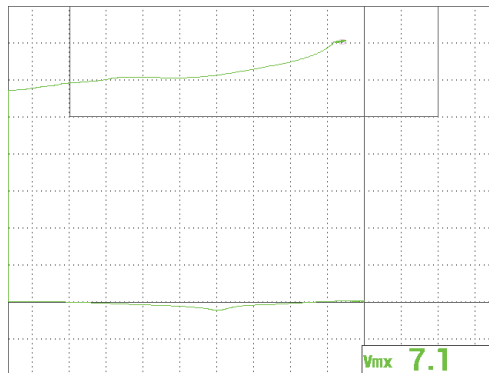

Figure 5-27 The signal in full-screen mode
8. Press the FREEZE key (❄️) to unfreeze the acquisition, and then press the FULL NEXT key (➡️) to toggle to full-screen mode (see Figure 5-27 on page 145). To test the calibration, place the probe successively on the cracked and uncracked fasteners, and ensure that the cracked fastener generates a vertical deflection. While placing the ring probe, make sure to carefully aim it towards the center of each fastener.